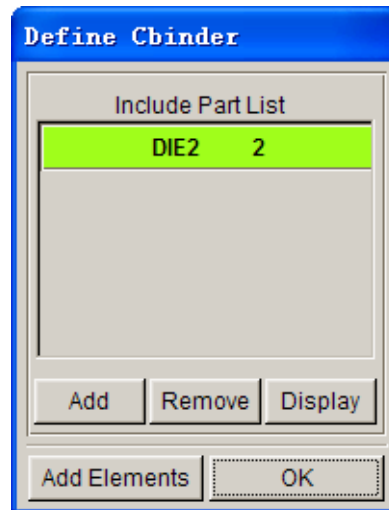

Figure 1.33: Define Cbinder dialog box
- 13) Click OK button to return to Define Binder dialogue box. Target part selected in the last step is listed in the Include Part List. See figure 1.33.